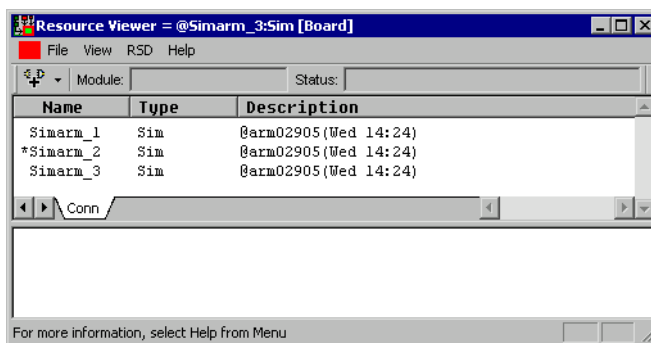

Figure 5-10 Resource Viewer showing multiple connections
8. Display the connection details, shown in Figure 5-10.